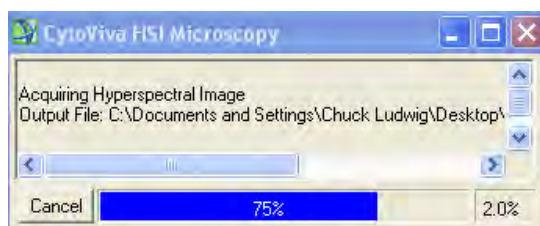

Figure 8. CytoViva HSI Acquisition Window
15. The HSI scan will begin and the acquisition progress bar appears (see Figure 8). The stage moves to the beginning of the scanning area and then the individual lines of the HSI image are acquired, until the stage has moved to the end of the scan area. During this process, the percentage of completion of the scan is reported on the progress bar. Ignore the percent value in the lower right corner. After the scan finishes, the HSI image automatically opens in ENVI.